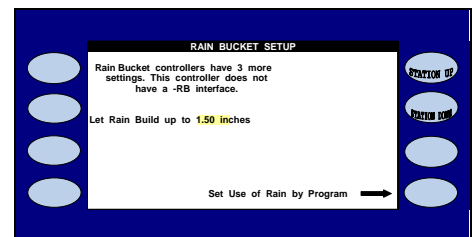

Figure 5.12
The RAIN BUCKET SETUP screen is displayed (Figure 5.12).
If a controller is not wired to a rain bucket, the RAIN BUCKET SETUP screen will only have one setting (Figure 5.12). This setting is described below:
- **Let Rain Only Build Up to:** This setting determines the maximum amount of rain that can be stored in the rain table. In figure 5.12 the controller will stop storing rain data in the rain table if the Maximum 24 Hour Total reaches **1.50** inches of rain.
From the RAIN BUCKET SETUP screen (Figure 5.12).